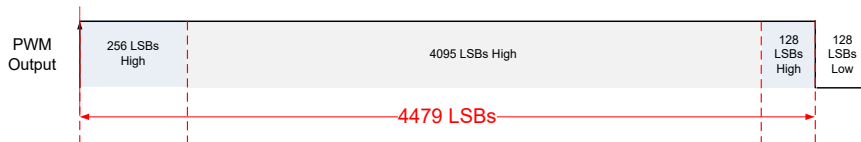
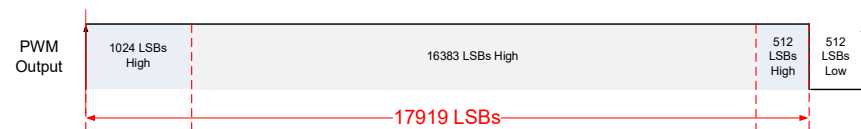

Figure 35. 12-bit PWM signal in diagnostics high mode
Figure 37. 14-bit PWM signal in diagnostics high mode
- Diagnostic high mode, see Figure 35 and Figure 37